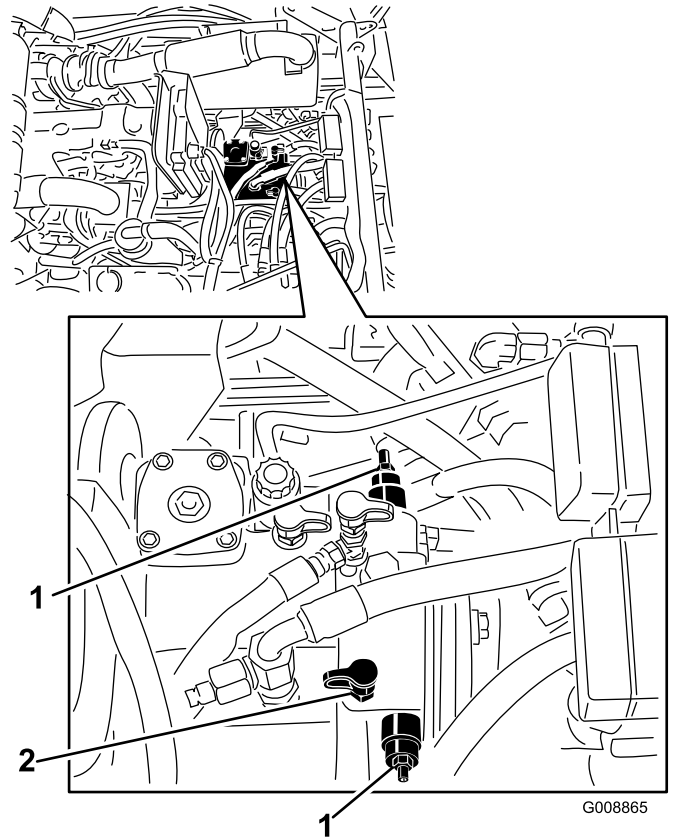
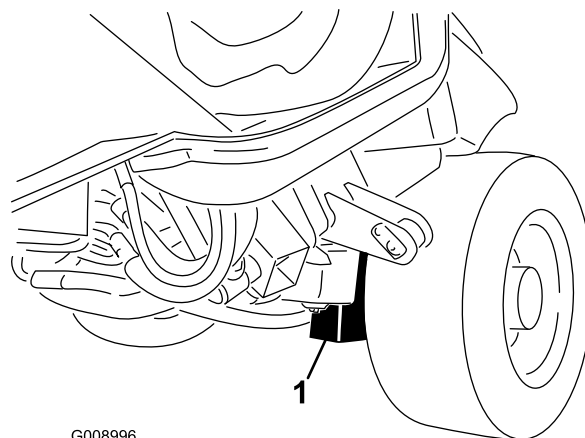

Figure 35
**Figure 36**
1. Raise the hood and locate the bypass valves on the sides of the pump (Figure 35).
2. To actuate the tow valves, loosen the jam nut on each bypass valve stem (Figure 35).
**Important:** If the machine must be pushed or towed in reverse, the check valve in the four-wheel drive manifold must also be bypassed. To bypass the check valve, connect a hose assembly (Hose Part No. 95-8843, Coupler Fitting No. 95-0985 [Qty. 2], and Hydraulic Fitting No. 340-77 [Qty. 2]) to the reverse traction pressure test port (Figure 35. and Figure 36). and the reverse four-wheel drive pressure port (Figure 36).